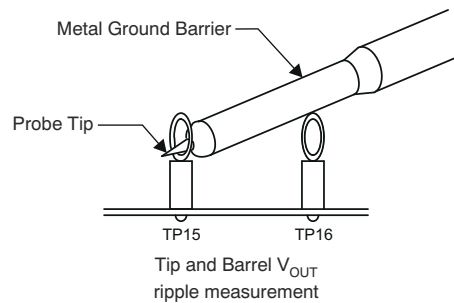

Figure 5-2. TPS40193EVM-001 Output Ripple Measurement—Tip and Barrel Using TP15 and TP16
There are two test points on the TPS40193EVM-001 for measuring the voltage generated by the module. These test points allow the user to measure the actual module output voltage without losses from output cables and connector losses. All output voltage measurements should be made between TP15 and TP16. To use TP1 and TP2, connect a voltmeter positive terminal to TP15 and negative terminal to TP16. For output ripple measurements, TP15 and TP16 allow a user to limit the ground loop area by using the tip and barrel measurement technique shown in Figure 5-2 (All output ripple measurements should be made using this method of measurement).
TP15 and TP16 can be used to measure the output ripple voltage by placing the oscilloscope probe tip through TP15 and holding the ground barrel to TP16, as shown in Figure 5-2. For a hands-free approach, the loop in TP16 can be cut and opened to cradle the probe barrel. Using a leaded ground connection may induce additional noise because of the large ground loop area.
4. Connect oscilloscope probe to TP15 and TP16 as shown in Figure 5-2.